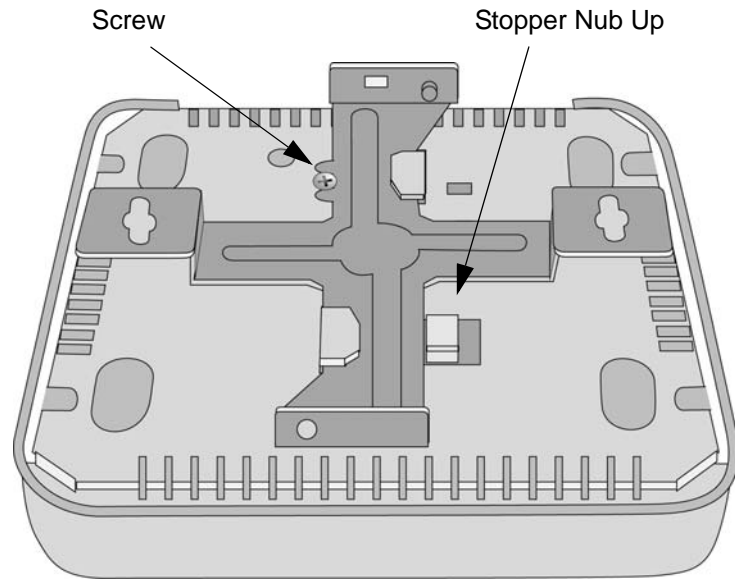

Figure 12. Securing the Mounting-Bracket
4. Attach the mounting-bracket screw through the notch in the mounting bracket to the access point, as shown in Figure 12 on page 41.
4. Fasten the access point to the base plate by turning the base-plate captive screw clockwise using a Phillips-head screwdriver. Refer to Figure 12.